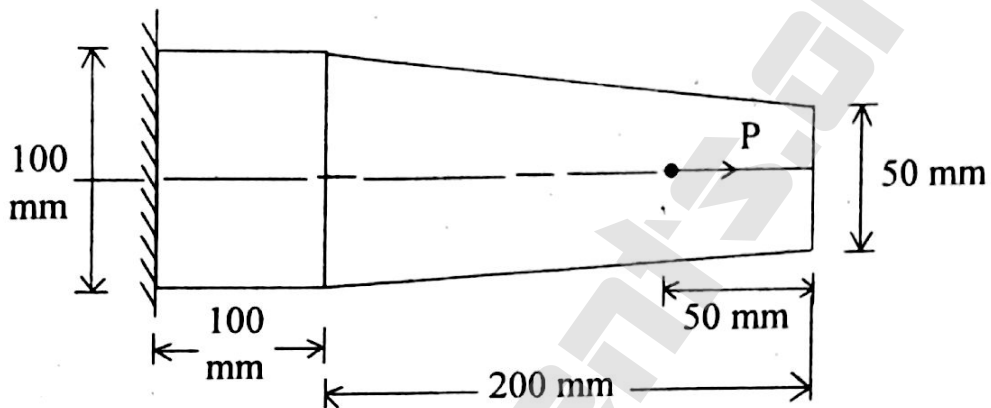

Fig. 7
7. For axially loaded member shown in Fig. 7. Determine (1) Nodal displacement, (2) Stress in each element and (3) Reaction at fixed support.